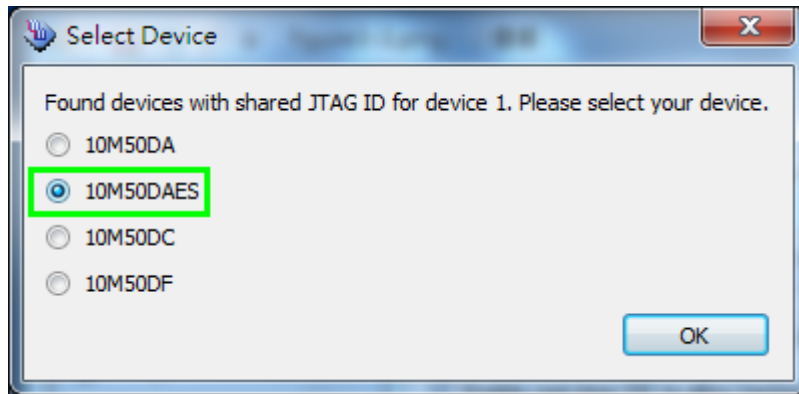

Figure 3-3 Select 10M50DAES device
2. Select detected device associated with the board, as circled in **Figure 3-3**.